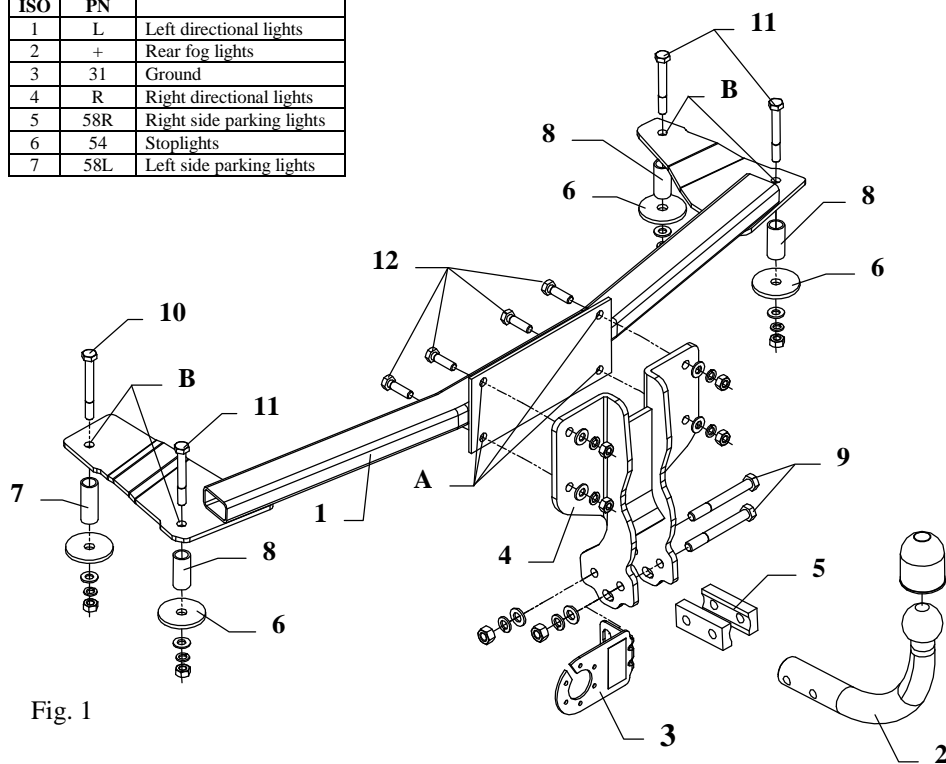

Fig. 1
4. Position the main bar of the towing hitch (pos. 1) in the trunk and fix it with the bracket (pos. 4) through the 4 drilled holes (pos. A) - use bolts M10x35mm (pos. 12).
5. Position the sleeves (pos. 7 and 8) properly at the bottom of the car, then fix it through the holes (pos. B) using suitable bolts M10x80mm (pos. 11) and M10x90mm (pos. 10) together with large washers (pos. 6) – see fig. 1.
6. Position the ball of towing hitch (pos. 2) with overplate (pos. 5) and socket plate (pos. 3) and fix them with M12x100mm (pos. 9) bolts from the towing hitch accessories.